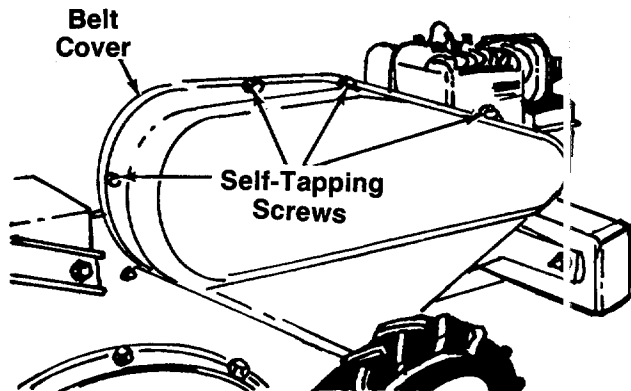

FIGURE 21.
1. Remove belt cover by removing the four self-tapping screws. See figure 21.